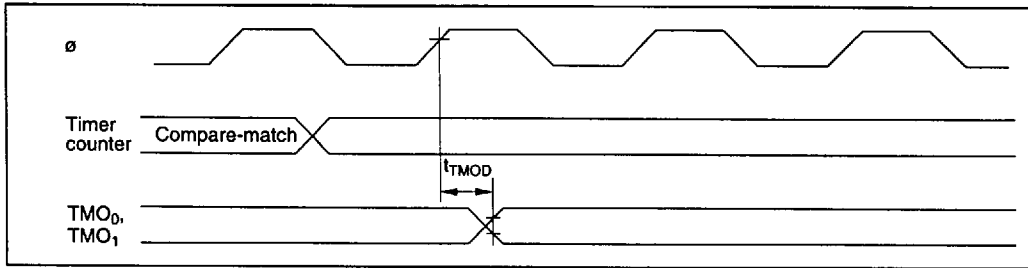

Figure 22-12 8-Bit Timer Output Timing
22.3.4 8-Bit Timer Timing	Figures 22-12 to 22-14